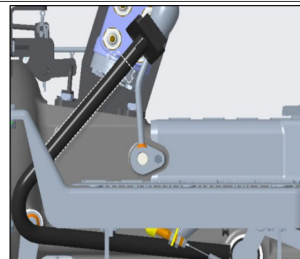

Fig.5.50
- Press down the clutch pedal and measure the free play of pedal as shown in the Fig. 5.50.
- Loosen the Fork and check nut (1)